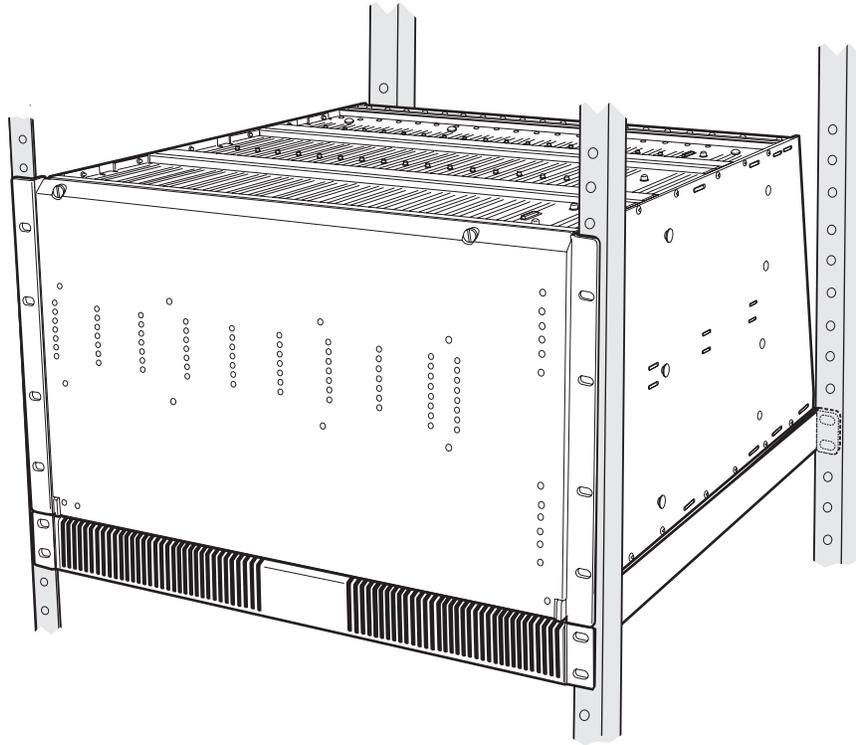

Figure 2. Mounting the CM9765-MXB on Top of the Mounting Baffle
2. Install the CM9765-MXB matrix bay on top of the mounting baffle. Refer to Figure 2.
NOTE: Figure 2 illustrates the recommended mounting method. For an alternate, open-rack mounting method, refer to the *Mounting the CM9765-MXB in an Open Rack* section in the *Appendix*.